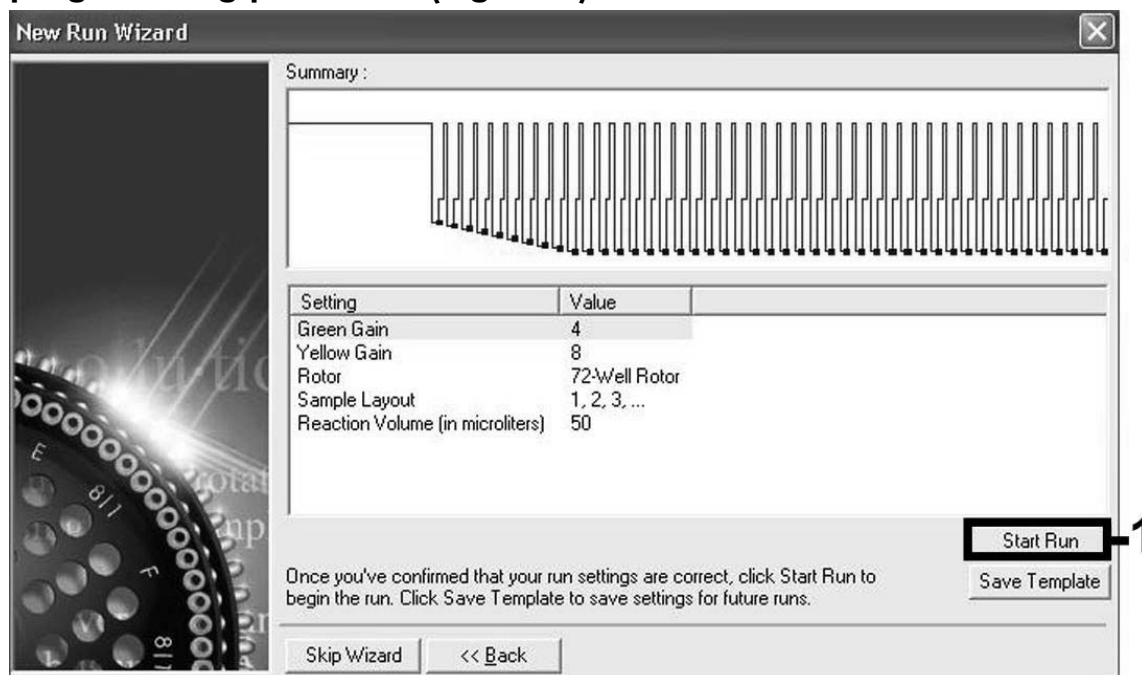

Figure 9. Starting the run. Note that, on the Rotor-Gene 3000, the software will define the fluorescence dyes as “FAM/Sybr” and “JOE”.
Starting the run	Figure 9
10. The gain values determined by the channel calibration are saved automatically and are listed in the last menu window of the programming procedure (Figure 9). Click “Start Run”.